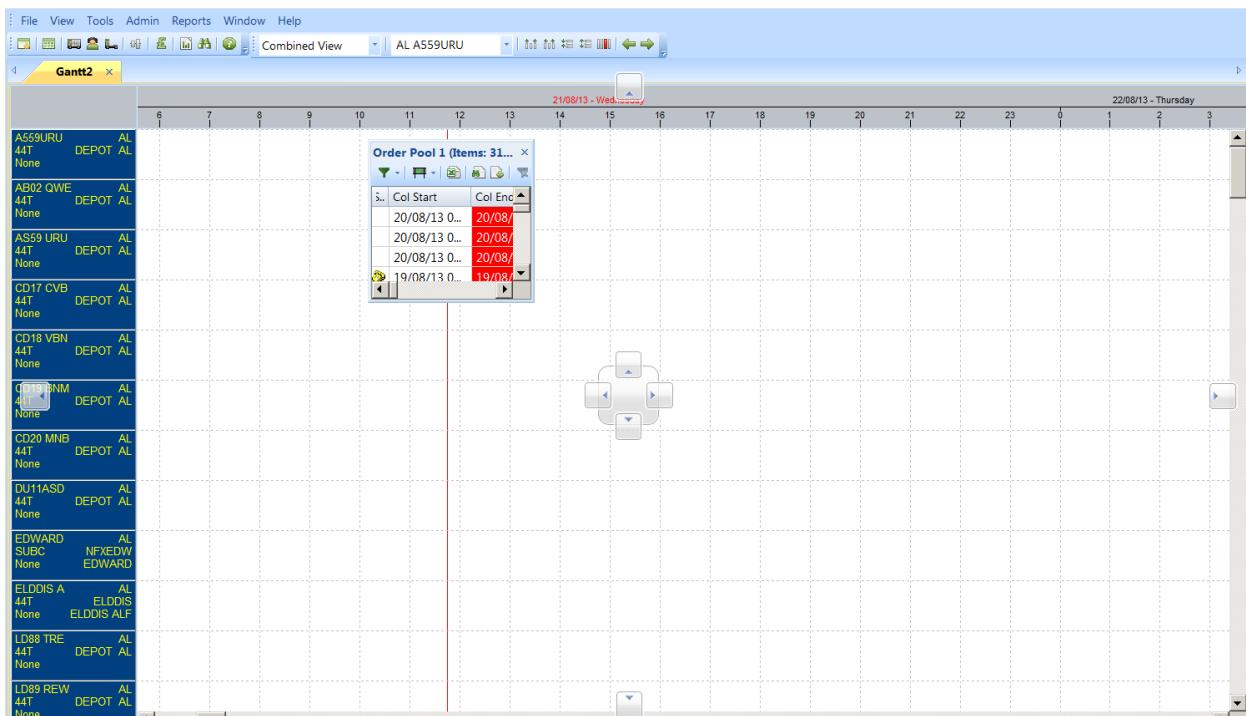

Figure 4
4. Move the mouse pointer over one of the dock arrows (shading will be visible on the screen to indicate the new position of the window) (Figure 4)